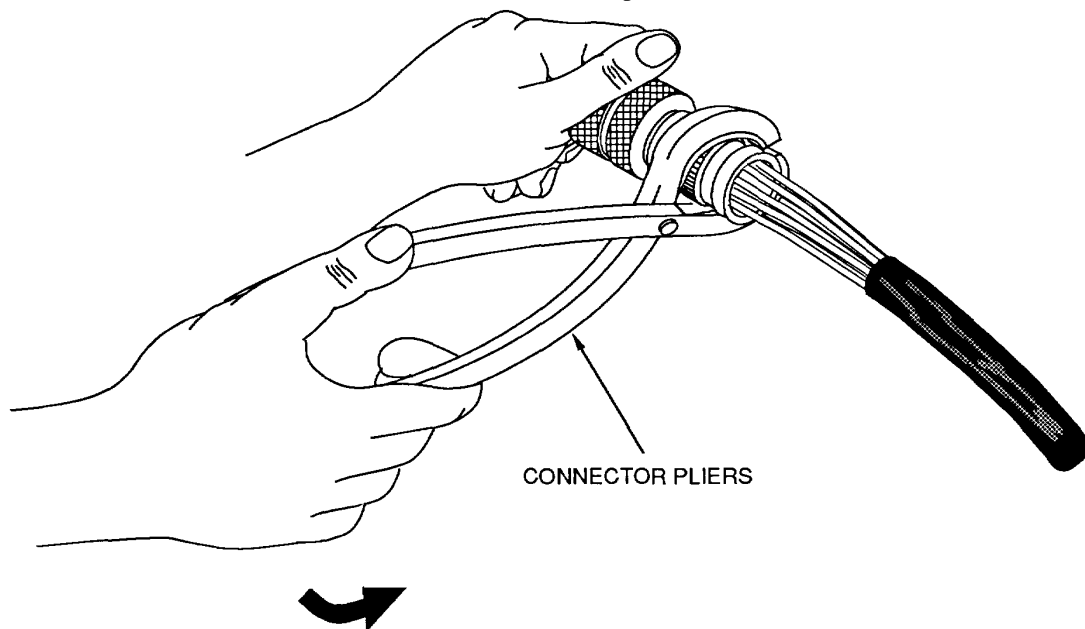

Figure 15. Removing Adapter or Coupling Ring
e. Using connector pliers with plastic jaws turn adapter or coupling ring counterclockwise and remove (Figure 15).
h. Remove adapter (Figure 15)
(1) For adapters without shields simply remove adapter.